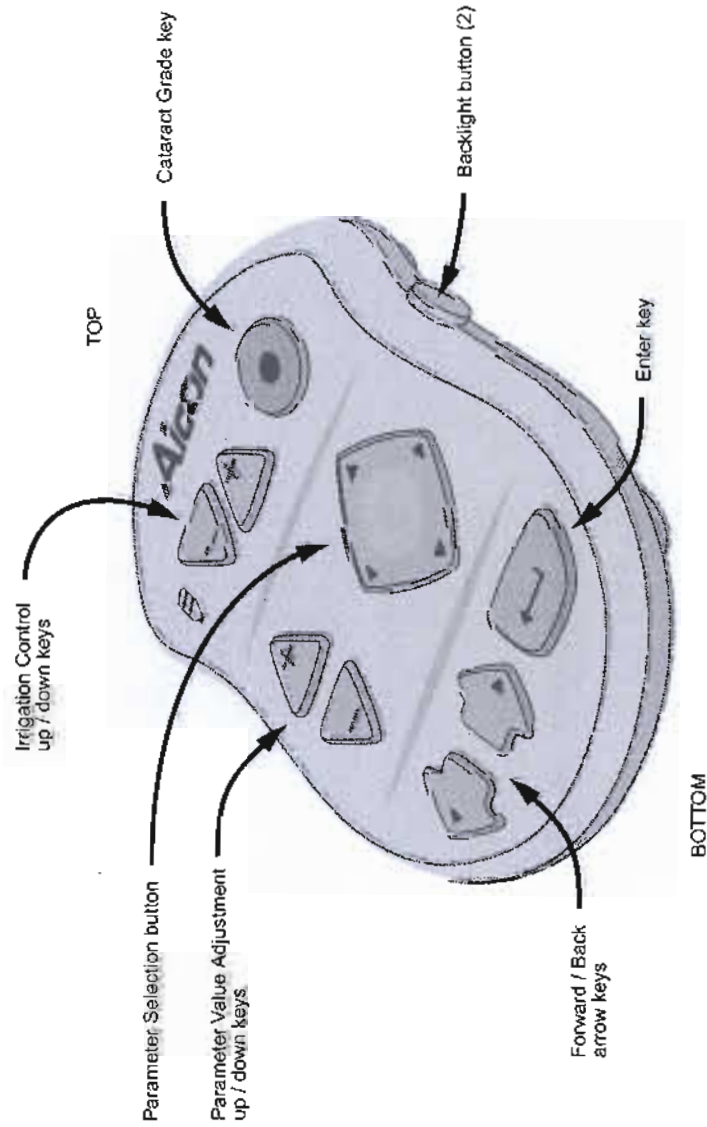

Figure 1-14 The Remote Control Keys
6. Press the **Enter** button on the remote (see Figure 1-14), then press **Save** on the screen.